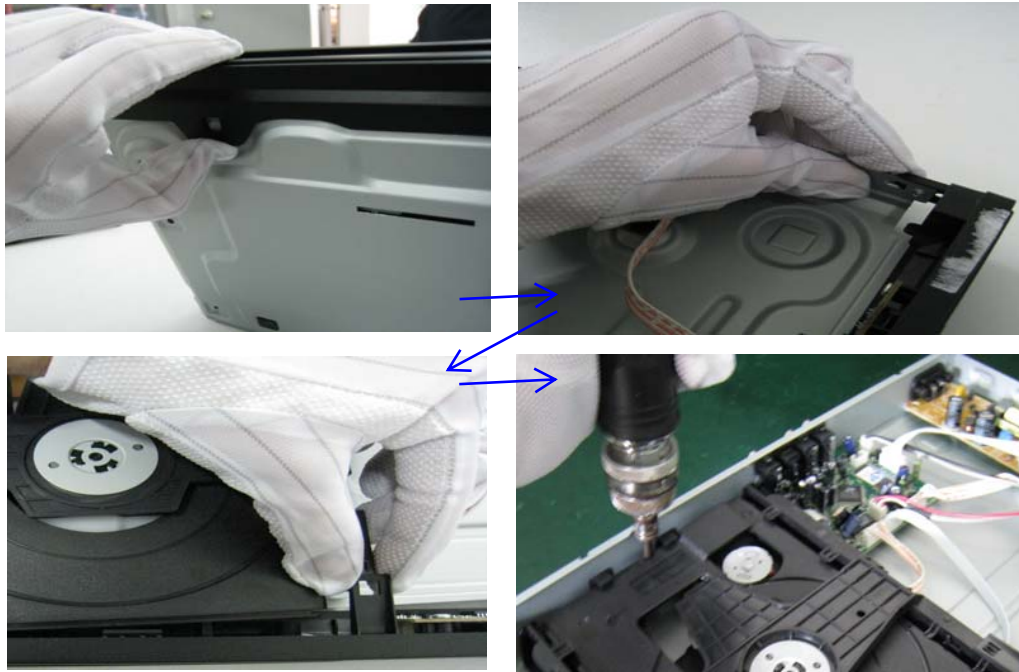

Figure 5
Step5: Dismantling Loader, disconnect the 3 connectors (XP7, XP8 XP9) aiming in the below figure, and remove 1 screw that connects the loader and the bottom cabinet. (Figure 5 & 6)